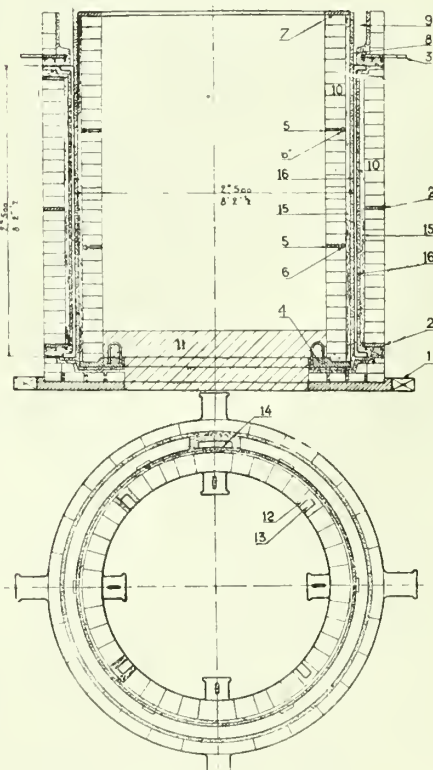

Fig. 4—Plan and section of a Callender Loam Mould.
Large calenders (Fig. 4) of 8½ ft. dia. x 6½ ft. to 9½ ft. high and of generally thin sections (not more than 1 in.) are castings which require great care to ensure success. It is impossible to guarantee success with a sand mould, owing to the friable nature of the sand, and especially of the large surface of the mould, perhaps 22 to 27 sq. yards. In addition, the great height and the speed of pouring cause disintegration of the sand, the metal scouring the walls of the mould strongly as it enters. Loam moulding, therefore, offers a more certain chance of success.
(1) The cast-iron rings in the core (Fig. 4, No. 5) must be in one piece and not cut on one side for expansion. These rings made in one piece greatly strengthen the core, but in order to permit of the contraction of the casting (2) they must be faced with straw rope (Fig. 4, No. 6). This is absolutely necessary, otherwise the resistance to contraction would crack the casting, whereas when the straw is burnt a space is formed between the ring and the outer layer of sand which permits free contraction.
The casting is poured from the top by means of small ingates, well separated (Fig. 4, No. 8), the metal being poured into a trough (No. 9). It is
In regard to the core the cast-iron rings inserted in it make it very resistant to the pressure of the metal. Three hours after pouring the sand layer (No. 11, Fig. 4) is removed, and the rings (No. 5) are rapped with a light hammer so as to detach from the layer
The bottom ring (No. 4, Fig. 4) should be entirely contained in the print, at least 2 in. below the casting, so as not to interfere with the contraction of the latter.
In Fig. 4 1 is a base ring; 2 covering ring for the collar and reinforcement ring; 3 cover ring and support for pouring through; 4 bottom ring for the core; 5 intermediate rings to reinforce the core; 6 straw ropes; 7 top ring for clamping the core; 8 runners; 9 pouring trough; 10 red bricks; 11 layer of sand; 12 loam bricks; 13 grooves cut in the loam bricks three hours after pouring; 14 feeding head or riser; 15 layer of loam (open grain); and 16 layer of sand with coke.